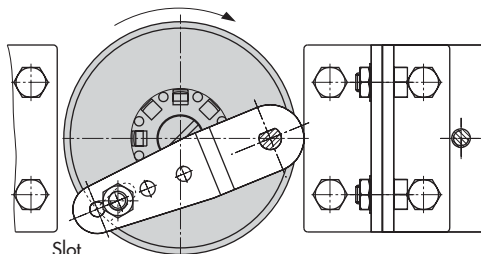

Fig. 5-23: Attachment to rotary actuators
- ➔ See Fig. 5-23
1. Place follower clamp (3) on the slotted actuator shaft or spacer (5).
2. Place coupling wheel (4) with flat side facing the actuator on the follower clamp (3). Align slot so that it matches the direction of rotation when the valve is in its closed position (see Fig. 5-23).
3. Fasten the coupling wheel (4) and follower clamp (3) tightly onto the actuator shaft using screw (4.1) and disk spring (4.2).
5. Mount connecting plate (6) or pressure gauge bracket (7) with pressure gauges on the positioner. Make sure that the two seals are seated properly. Double-acting springless rotary actuators require the use of a reversing amplifier on the connection side of the positioner housing (see Chapter 5.6.7).
6. Unscrew the standard follower pin (2) from the positioner's **M** lever (1). Use the metal follower pin (\varnothing 5 mm) included in the mounting kit and screw tight into the hole for pin position **90°**.
7. Place positioner on the top bracket (10) and tighten. Taking the actuator's direction of rotation into account, adjust lever (1) so that it engages in the slot of the coupling wheel (4) with its follower pin (Fig. 5-23). It must be guaranteed that the lever (1) is parallel to the long side of the
Legend for Fig. 5-22 and Fig. 5-23